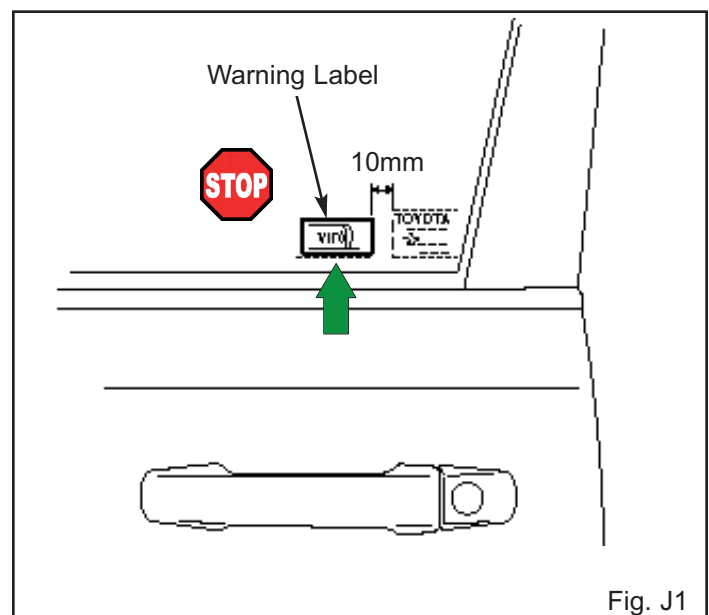

Fig. J1
1. Clean the inside surface of the front door's windows. (Fig. J1)
2. Place the warning label on the inside surface of the front door's windows as shown. (Fig. J1)